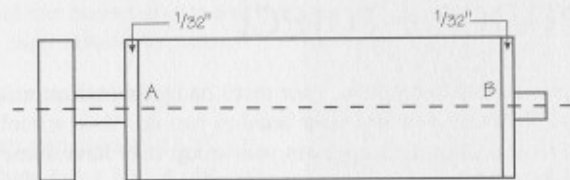

FIGURE 2
2. With the parting tool, cut the ends down to $1/2$ " diameter, $1/32$ " outside lines A and B, as shown in figure 2.